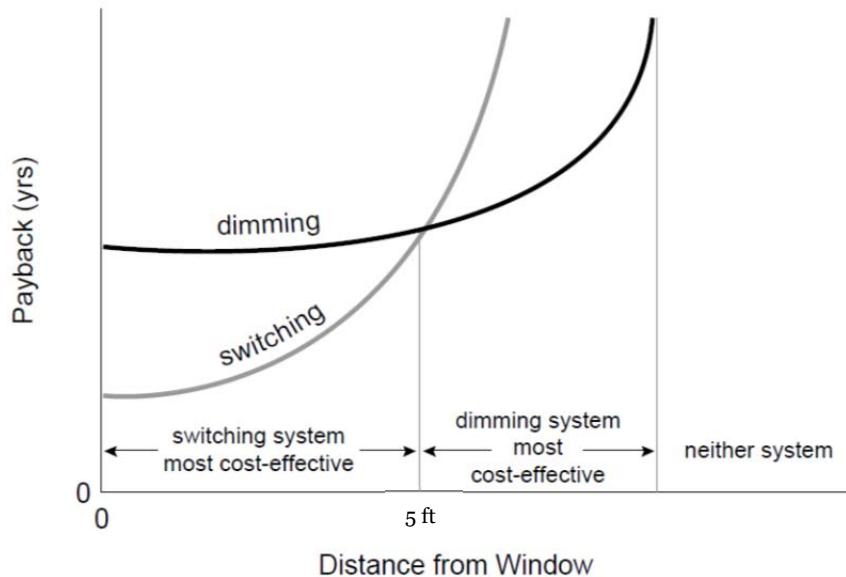

Figure 31: Dimming/Switching payback chart
- **Choose dimming hardware if daylighting, lumen maintenance, or tuning are the selected control strategies.** With the cost of dimming ballasts still high, dimming control is still more expensive than switching control (although ballast costs continue to fall) but it is the best for implementing these strategies. It is also generally the most acceptable to occupants, because changes in the electric light levels are least disturbing. Daylighting and lumen maintenance strategies integrate well, since they use the same hardware. Dimming is not cost effective in non-daylit areas unless coupled with occupancy or scheduling controls. Dimming can capture all possible daylighting savings. For spaces with adequate daylight all day long and for non-critical visual tasks, switching may be acceptable, since the lights may adjust only once or twice during stable daylight hours. Scheduling (either with automatic time controls or occupant sensors) can be implemented effectively with switching controls. Switching technologies are generally inexpensive, have a short payback period, and typically do not require specialized expertise to install. They are compatible with other lighting systems and are easily adjusted. Figure 31 shows payback curves for dimming and switching options.